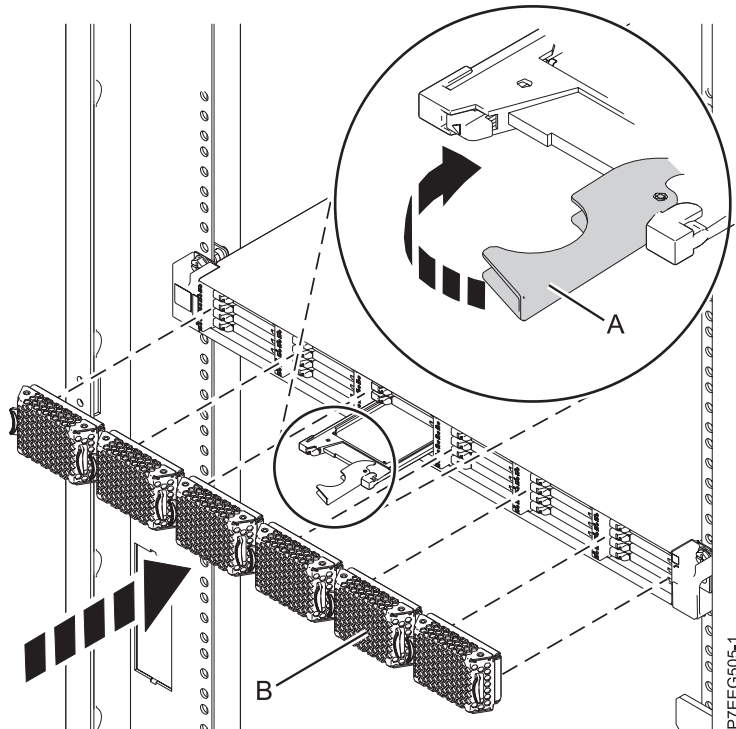

Figure 3. Installing a solid-state drive in the 58/88 PCIe storage enclosure
1. With the handle in the unlocked position, align the solid-state drive with the guide rails in the enclosure. See Figure 3 on page 9.
5. Rotate the handle (A) to the locked position.
6. Install the bezel (B).